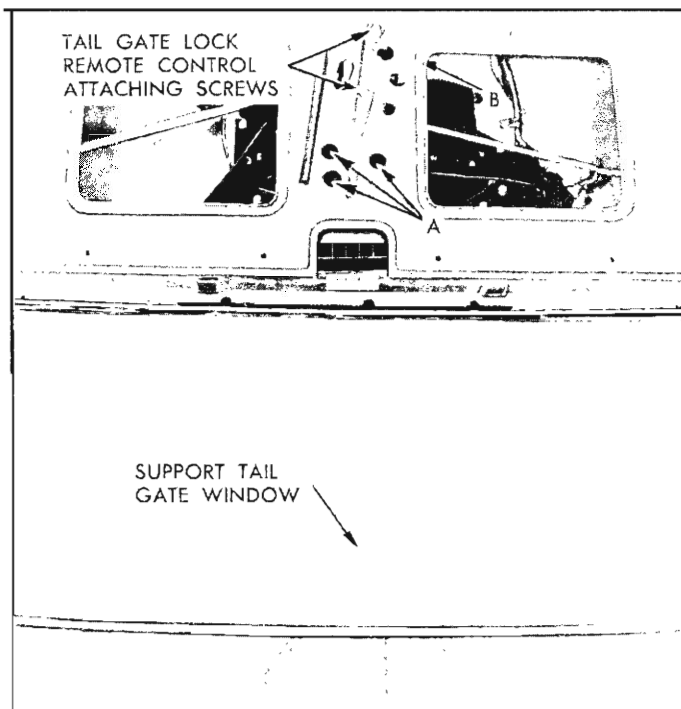

Fig. 41—Outside Handle and Lock Remote Control
5. Remove remote control assembly attaching screws (fig. 41) and lay remote control assembly on tail gate window.